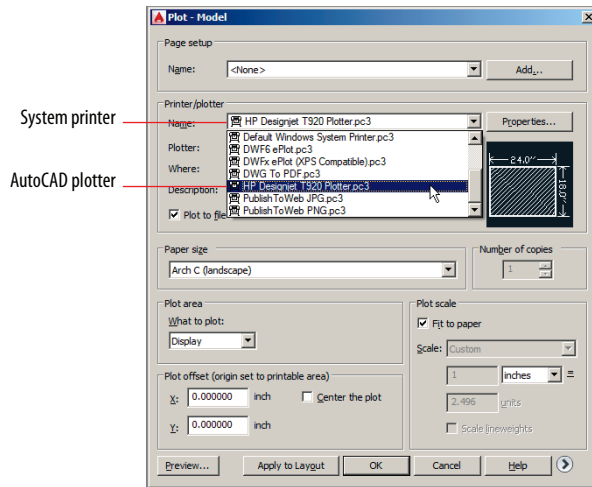

FIGURE 14.13 Selecting a plotter driver in the Plot dialog box
1. Click the Plot tool in the Quick Access toolbar. Open the Name drop-down menu under Printer/Plotter in the Plot – Model dialog box (see Figure 14.13). Observe that both a system printer and an AutoCAD plotter appear for the HP DesignJet T920 device. Click Cancel.